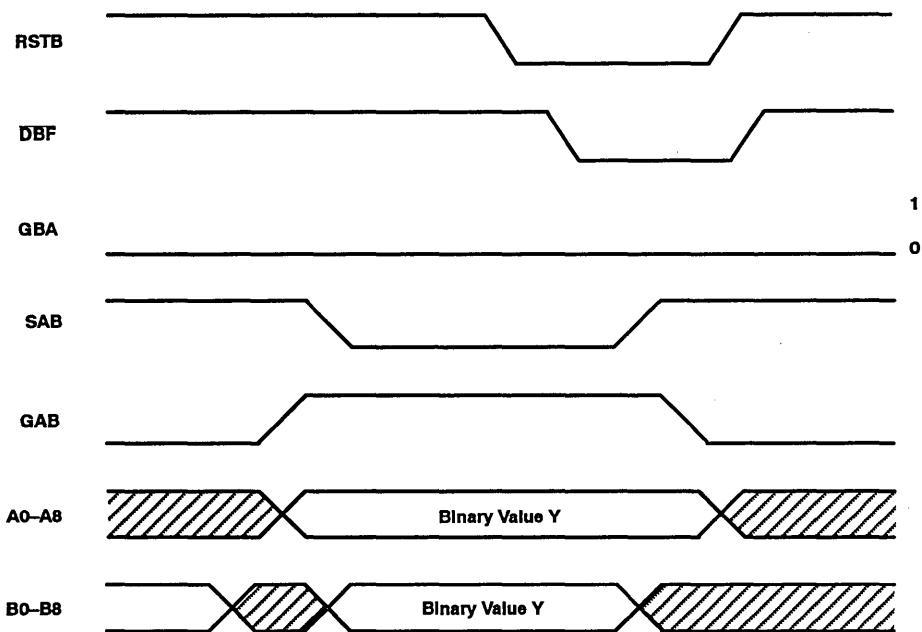

Figure 5. Programming AF/AEB Flag of FIFOB From Port A
Programming both flag offset values from one port is possible using real-time select. Figure 5 is a timing example of programming AF/AEB from port A. To program the AF/AEB offset value (Y) from port A, the binary value for Y is on $A0-A8$, SAB is low, and GAB is high. With this configuration, the port A data appears on the inputs of FIFOB, and a falling edge of \overline{DBF} stores the Y value.